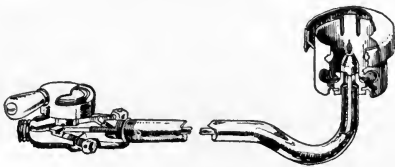

FIG. 8. Pilot light for gas stove.
17. Pilot for Top Burners. A pilot made for top burners (Fig. 8) burns continuously with a very tiny flame. Its purpose is to save gas, patience, dirt and matches. The saving comes because the housekeeper can so easily re-light the burners that she will turn them out whenever she is not needing the fire. Sometimes when the gas pressure is low,